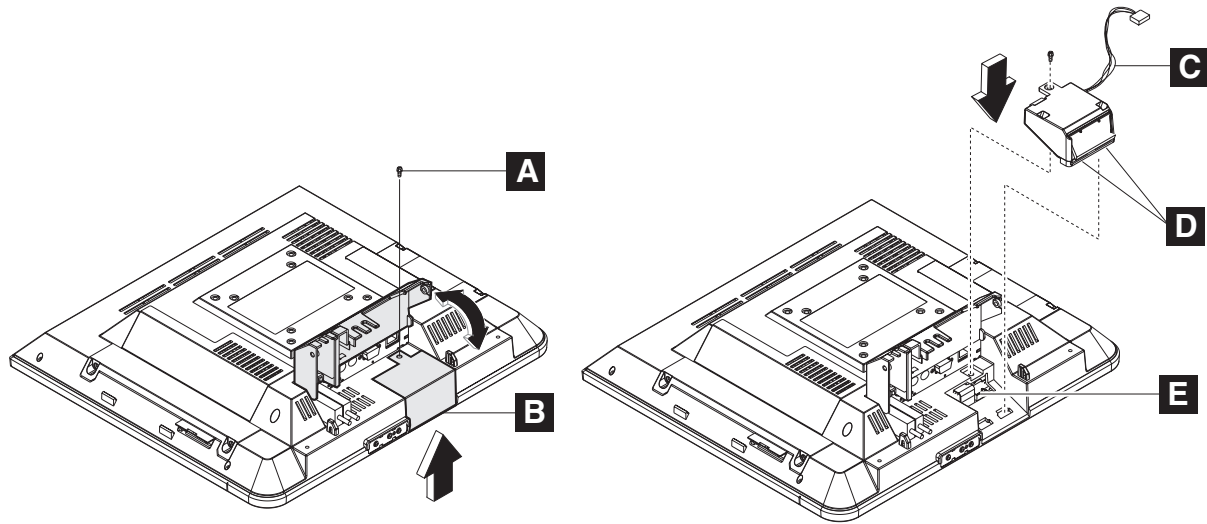

Figure 5. Installing the scanner
1. As shown in Figure 5, place the IBM 4836 face down on a sturdy surface.